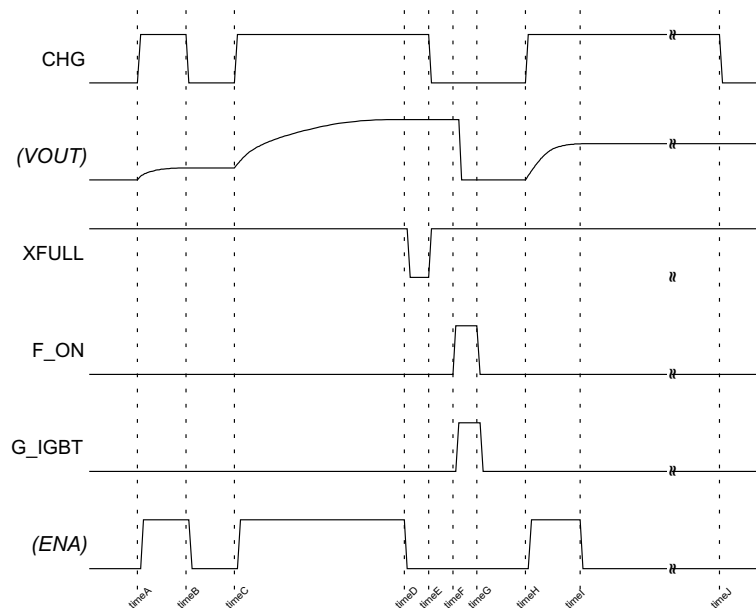

Figure 4. Whole Operation Sequence Chart
TPS65562 has one internal enable latch, F1, that holds the charge enable (ON/OFF status) of the device (see Figure 4).
The only way to start charging is to input $CHG\uparrow$ (see time A/C/H in Figure 4). Each time $CHG\uparrow$ is applied, the TPS65562 starts charging.
1. Forced stop by inputting $CHG = L$ from the controller (see timeB in Figure 4).
2. Automatic stop by detecting a full charge. V_{OUT} reaches the target value (see TimeD in Figure 4).
3. Protected stop by detecting an overcurrent function (OVDS) trigger at SW pin (see TimeI in Figure 4).
The TPS65562 provides an over voltage monitor function of the SW pin. The TPS65562 is latched off if the voltage on the SW pin is above OVDS during the switch ON time (see Figure 4 and its descriptions).